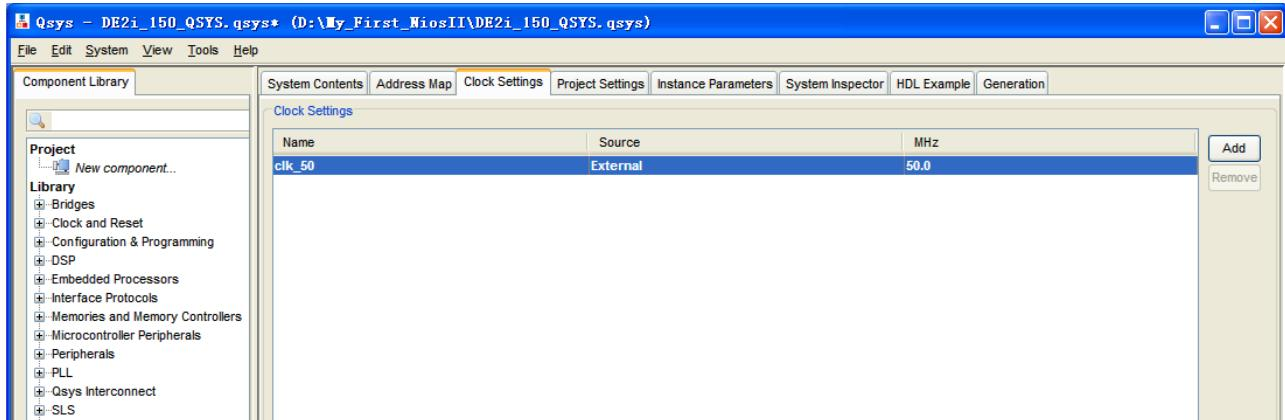

**Figure 1-12 Rename System**
7. Rename **System Name** as shown in Figure 1-12. Click **Save** and you will see a window as shown in Figure 1-13.